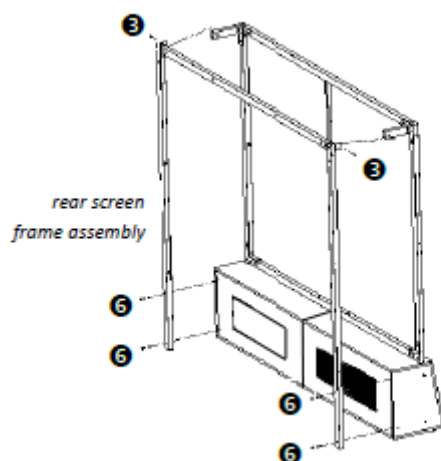

Figure 5: Screen Base Assembly with Rear Screen Assembly
1. Align holes at bottom of rear screen frame assembly posts with holes in rear of screen base. The perpendicular flaps on the rear screen frame assembly should be very near the cross joiners. See Figure 5.